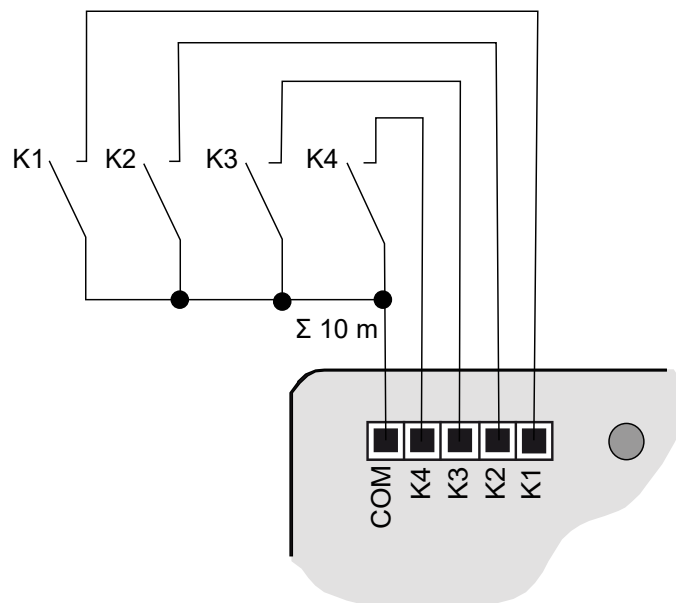

Figure 3: Connection example, 4-gang
- Connect push-buttons, switches or contacts to enclosed connecting cables (4) according to the connection example (see figure 3).